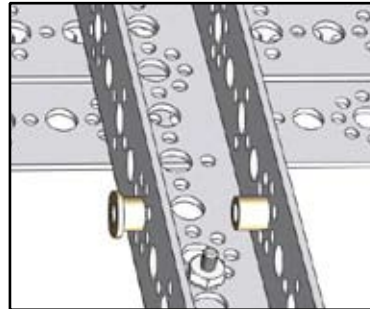

Figure A9
6) Insert the bushings in the hole where you want to place the axle – there will be one on each side (Figure A9). Push the end of the axle into the axle hole.